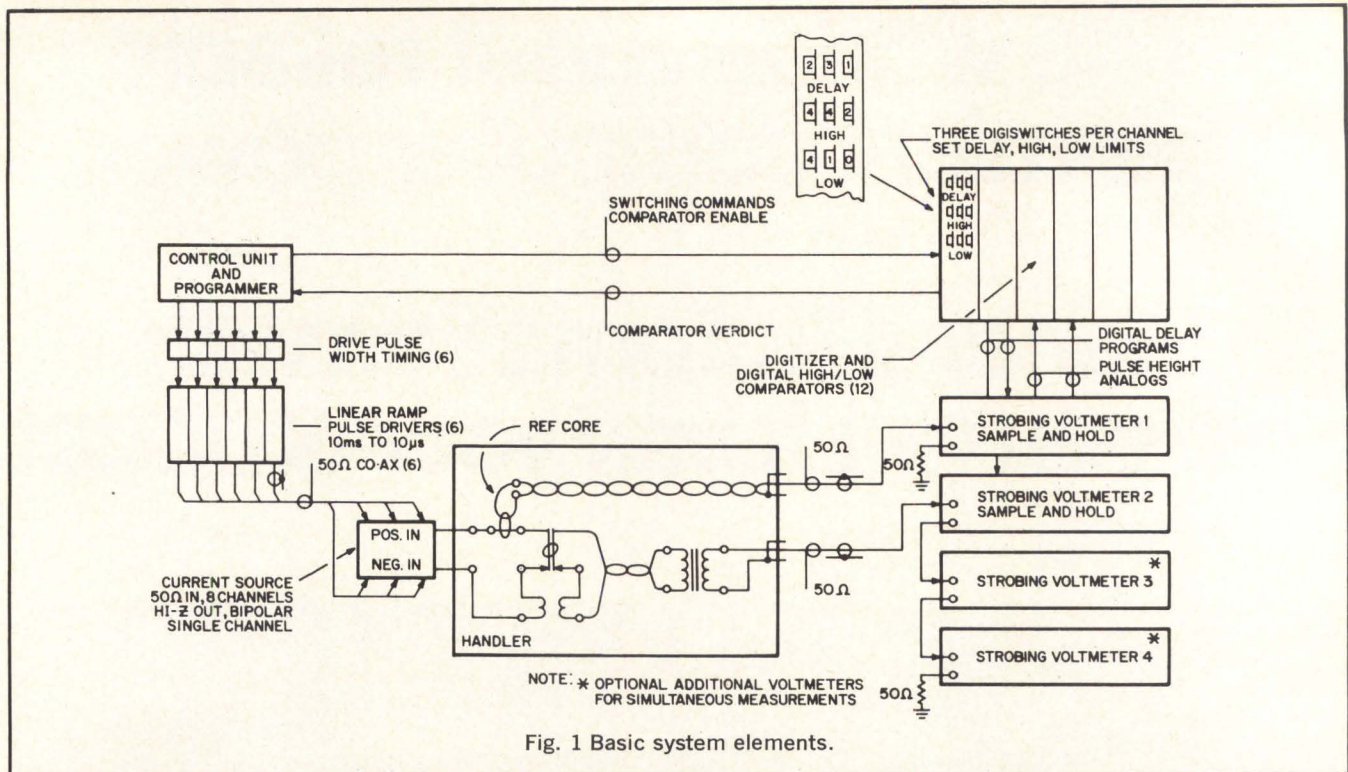

Fig. 1 Basic system elements.
and a risetime  $T_R = 2.2 \tau = 13.2 \text{ ns}$  meaning that with a perfect zero-risetime step propagated down a 50-ohm cable and directly into a handler with 6" of open wire drive line, current through the core can never rise faster than about 13 ns. Attainable risetime is seen to be directly related to physical length of the drive line of the handler. At 50 ns a 6" line is reasonable. If the designer wants to achieve 15 ns he must reduce the drive line to several centimeters. This was one of the prime considerations in developing the signal-handling portion of the handler used: to reduce signal lines and dimensions to a minimum so that the physical plant would not be a factor in achieving speed to 15 ns. The actual drive line length inside the handler is about 4 inches. This can be driven easily to 15 ns, as shown in Fig. 1.
*Switching*. Reference to Fig. 1 shows that multiplexing handlers involves switching three signal lines. Two of these are  $50\text{-ohm}$  coax to the voltmeters, the third is the drive line from current source to handler inport.